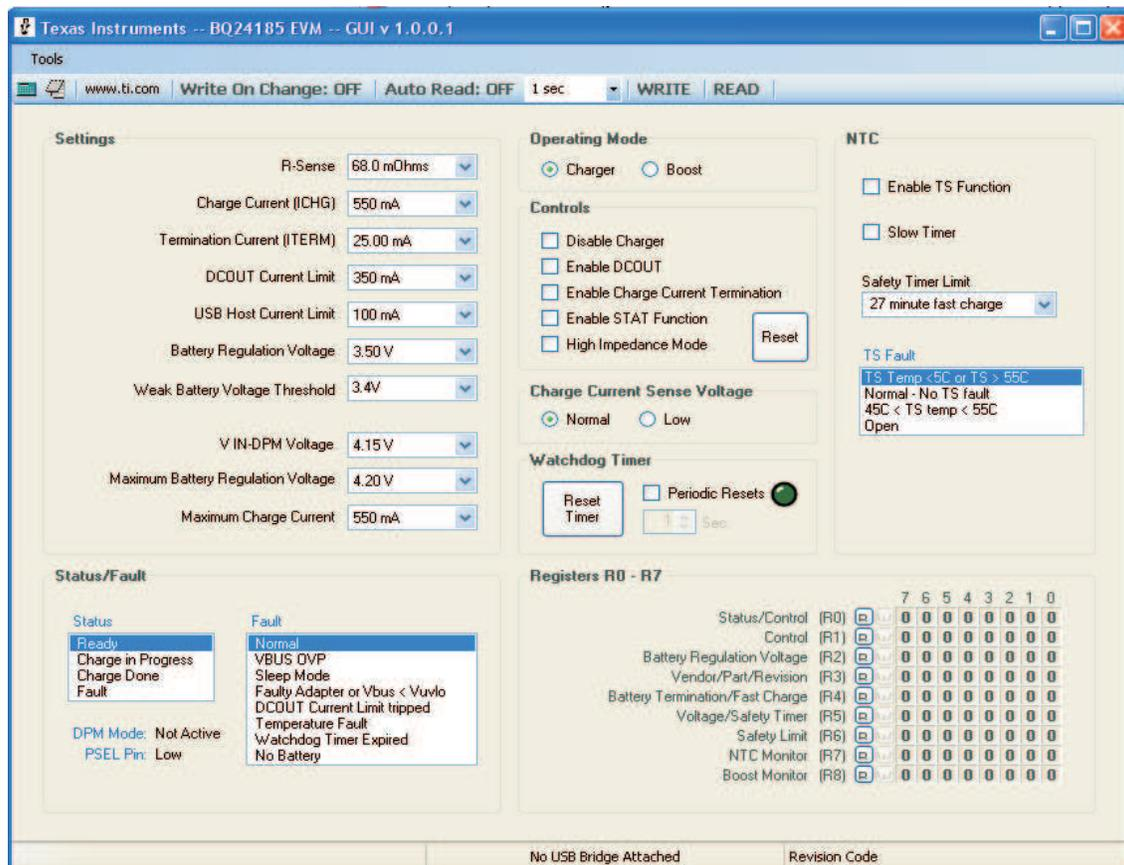

Figure 3. Main Window of bq24185 Evaluation Software
11. Ensure that EQUIPMENT SETUP steps are followed. Turn on the computer. Open the bq24185 evaluation software, by double-clicking on bq24185.exe (file found in the product folder, but needs to be uploaded to the computer running the test). The main window of the software is shown in Figure 3.